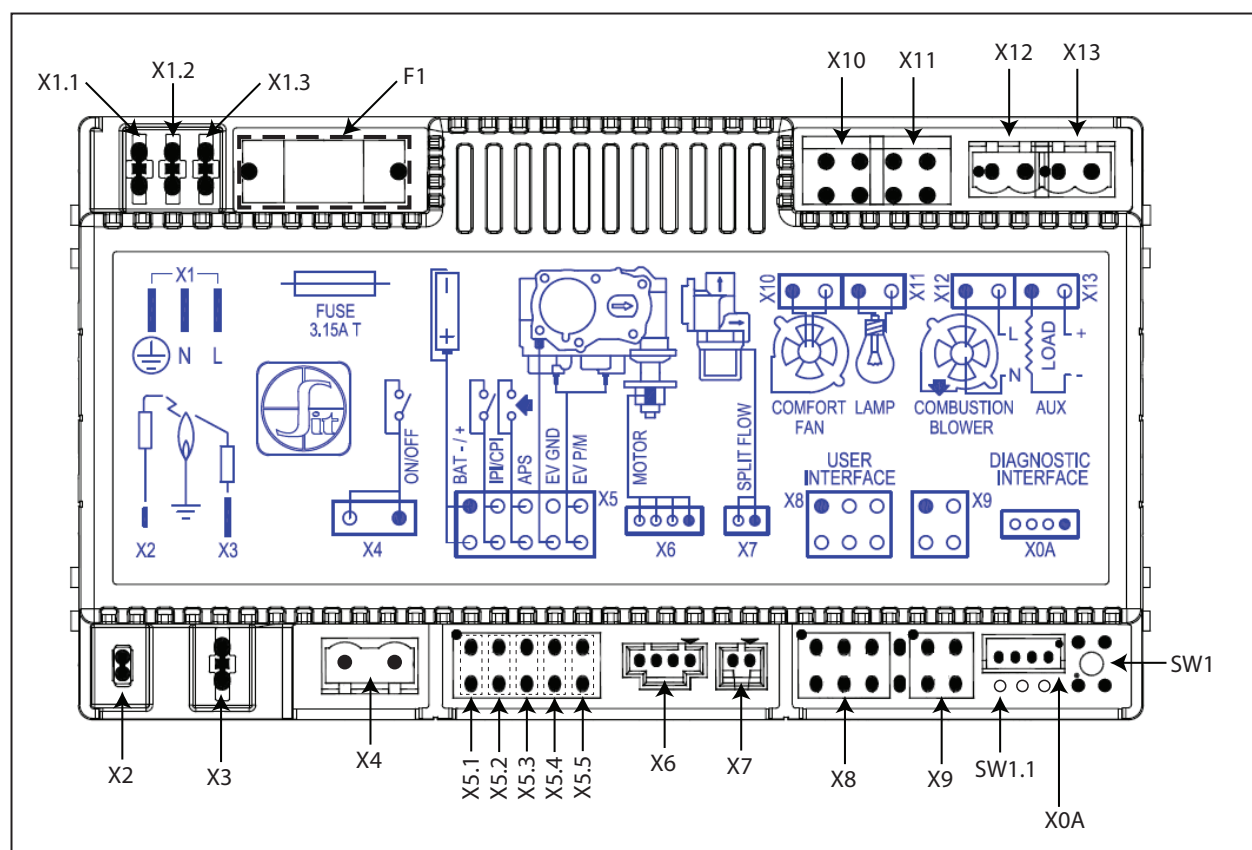
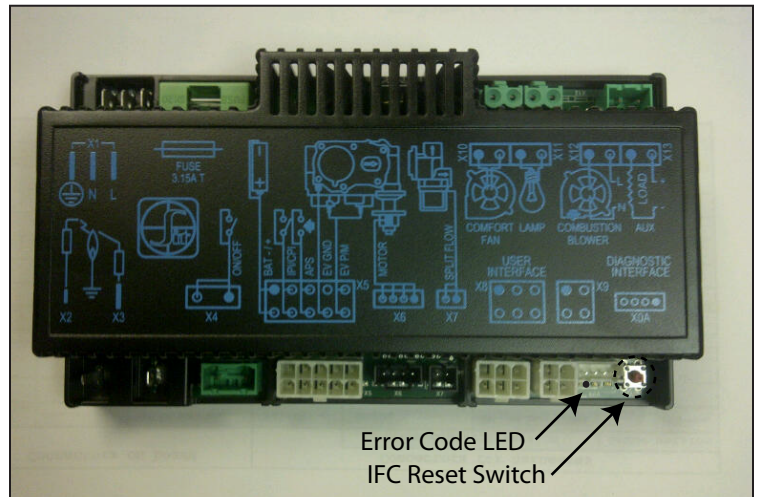

Figure 2: Integrated Fireplace Control (IFC) Diagram
Figure 7: IFC Error Codes
1. Press the SW1 button on the IFC (see Figure 2). It will beep three (3) times and illuminate the amber LED to indicate that the IFC is ready to synchronize with a remote control.
2. Within 10 seconds, push the ON button on the remote. The control module will beep four (4) times to indicate the remote is paired with the IFC.
When the backup battery is below 4V, the Red LED Indicator at SW1.1 (see Figure 2 or Figure 7) will pulse with a single blink. The IFC will beep twice when it receives a command from the remote control. Replace Batteries.
3. Press SW1 button (see Figure 2) until you hear three beeps.